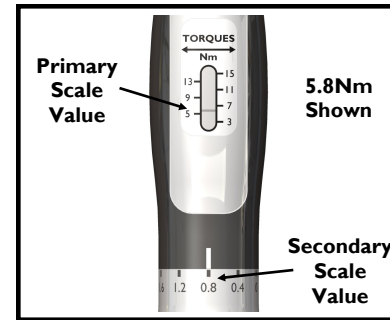
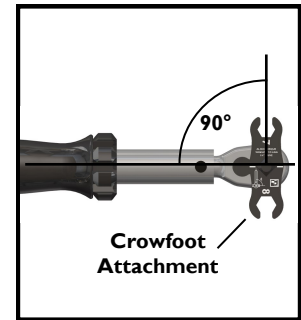

FIGURE 3
FIGURE 4
5. Install drive adapter and bit and/or socket onto the drive. Ensure all components are fully seated. If using a crowfoot type attachment, torque values will only be accurate with crowfoot positioned perpendicular to wrench's length. See Figure 3. If the crowfoot cannot be used in perpendicular position, use the conversion formula in Figure 4 to determine wrench setting needed to apply desired torque.